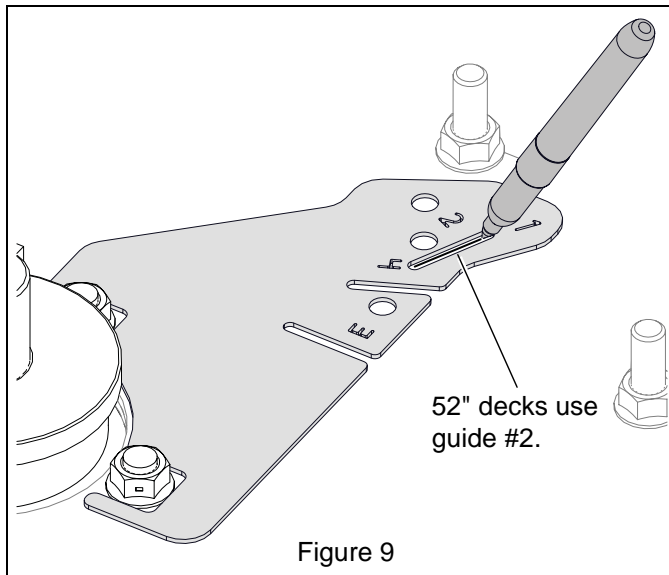

Figure 9
2. Use a permanent marker to draw a line on the deck for aligning the support bracket. See Figure 9.